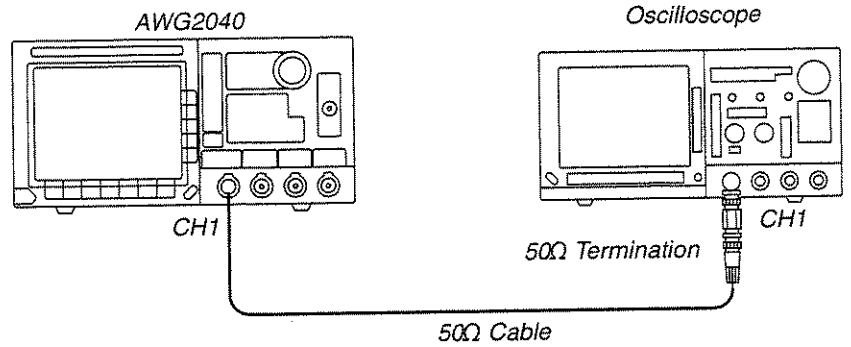

Figure 2-22: Connections in Example 2
- Step 13:** Connect this instrument and the oscilloscope with a 50Ω cable and a 50Ω termination as shown in Figure 2-22. This instrument's waveform output is calibrated to a 50Ω load.